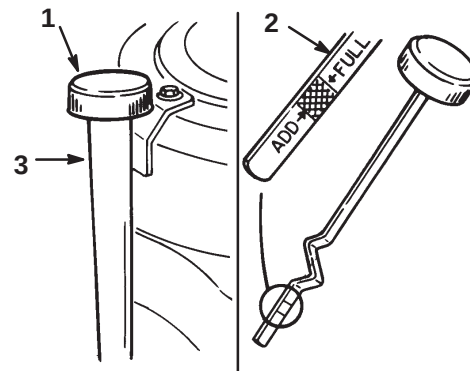

Figure 31
3. Clean around the oil dipstick (Fig. 31) so dirt cannot fall into the filler hole and damage the engine.
4. Unscrew the oil dipstick and wipe the metal end clean (Fig. 31).
5. Screw the oil dipstick fully onto the filler tube (Fig. 31). Unscrew the dipstick again and look at the metal end. If oil level is low, slowly pour only enough oil into the filler tube to raise the level to the “FULL” mark.
6. Slowly pour approximately 80% of the specified amount of oil into the filler tube (Fig. 31). Check the oil level; refer to Checking Oil Level, page 34, steps 4–5.